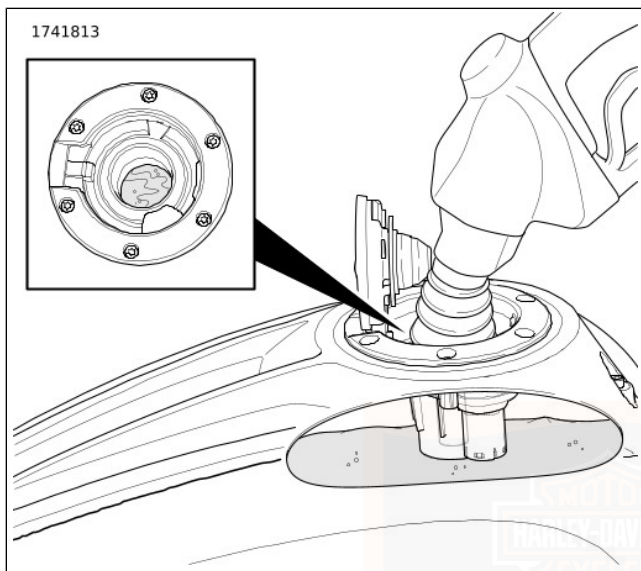

Figure 8. Fuel Level below Filler Neck
**Filling:** See Figure 8. Do not overfill the fuel tank. Insert the pump nozzle into the filler hole. Do not fill the tank beyond the bottom of the filler neck. A warm engine, the sun or extreme temperatures can cause the fuel to expand. Fuel can spill out of the tank and damage the finish. See SAFETY FIRST > SAFE OPERATING RULES (Page 3).